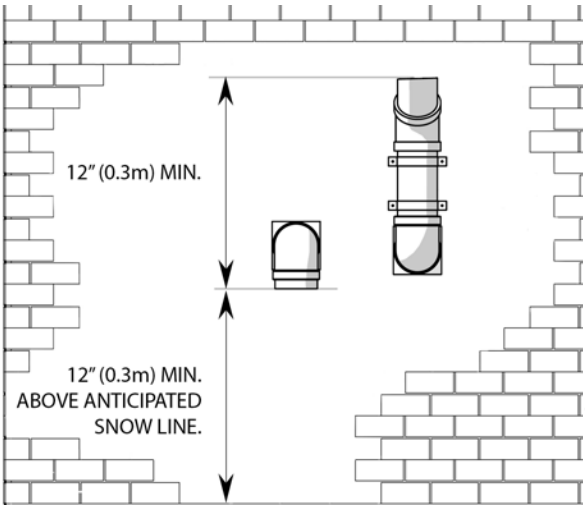
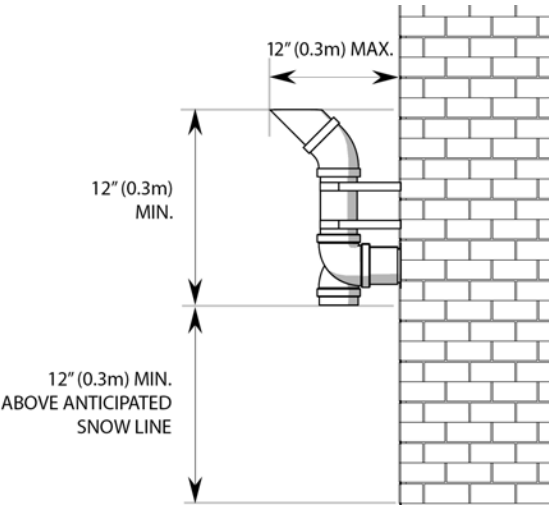
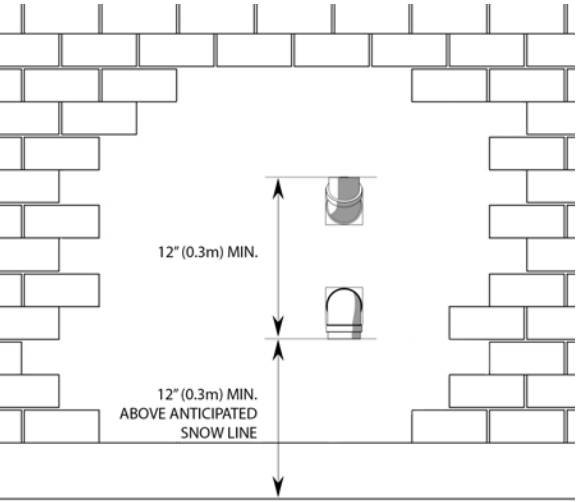
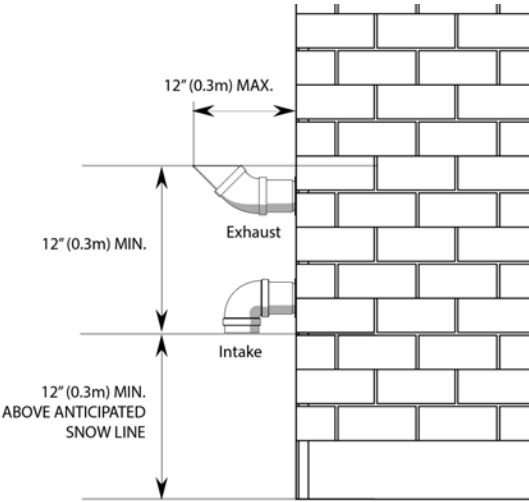

Figure 19 Vent termination clearance--horizontal perforations
Figure 20 Vent termination clearances--horizontal perforations, side view
Figure 21 Vent termination clearance--vertical alignment
Figure 22 Vent termination clearances--vertical alignment, side view
- » (Optionally) Raise the elevation of exhaust termination "periscope style" after passing through the wall, to gain the required clearance as shown in Figure 19 and Figure 20.
- » Use a 45° elbow on the exhaust termination to launch the plume up and off the sidewall (for protection of wall). A short piece of venting cut at 45° gives a horizontal termination protected from wind loads (see Figure 20, and Figure 22).
Important!: Maintain at least the minimum separation of exhaust vent termination from boiler intake air as illustrated in Figure 19, Figure 20, Figure 21 and Figure 22. Failure to maintain the minimum separation can result in a dangerous situation where exhaust gasses are re-ingested with combustion air. Damage to the boiler can result from a failure to maintain these separations. Third party vent termination kits and concentric wall penetration kits that do not maintain these minimum separations must **not** be used. Improper installation will void the warranty.